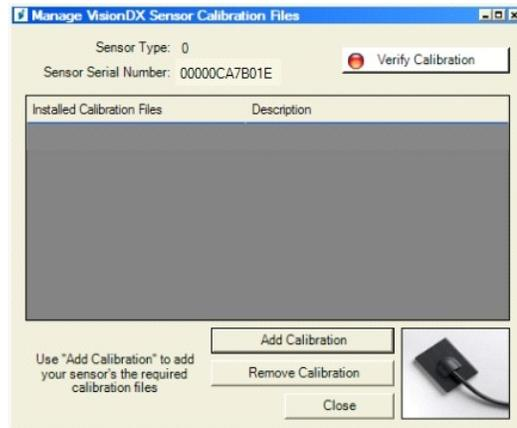

Figure 81
3. The Manage Vision DX Sensor Calibration File window will automatically open on your display (see Figure 81 on page 52).
5. Click Add Calibration (see Figure 81 on page 52).